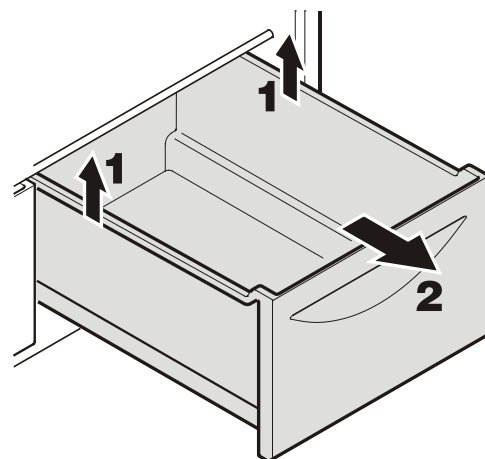

Figure 19
Pull the drawer straight out, grip at the back and lift out - *Figure 19*.
- Remove vegetable drawers as shown in *Figure 19*.